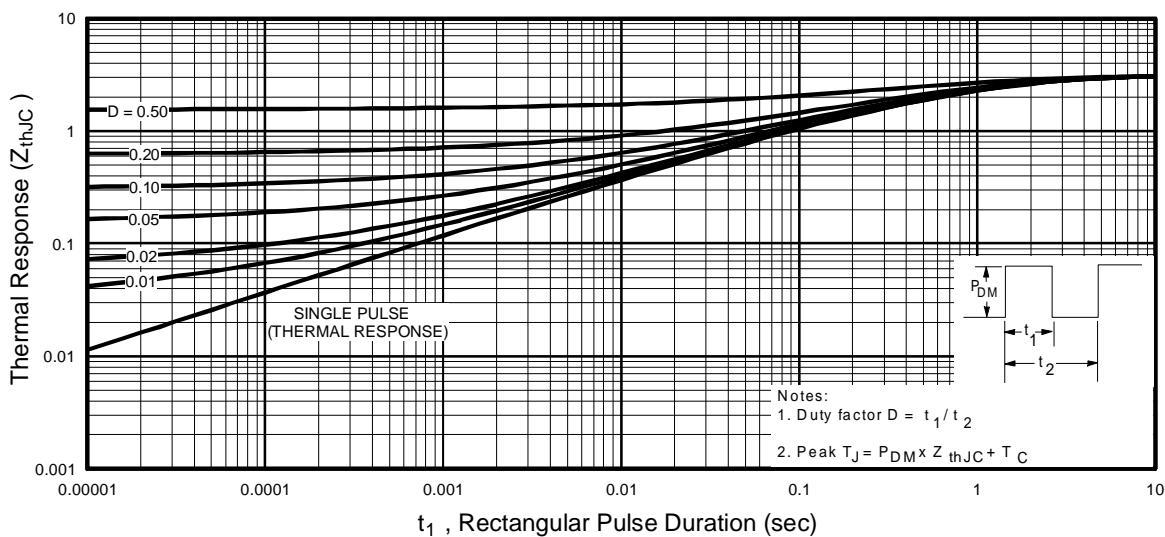

Fig 11. Maximum Effective Transient Thermal Impedance, Junction-to-Case
- ① Repetitive rating; pulse width limited by max. junction temperature. (See fig. 11)
- ③ $I_{\text{SD}} \leq 17\text{A}$, $dI/dt \leq 150\text{A}/\mu\text{s}$, $V_{\text{DD}} \leq V_{(\text{BR})\text{DSS}}$, $T_J \leq 150^\circ\text{C}$
- ⑤ $t=60\text{s}$, $f=60\text{Hz}$